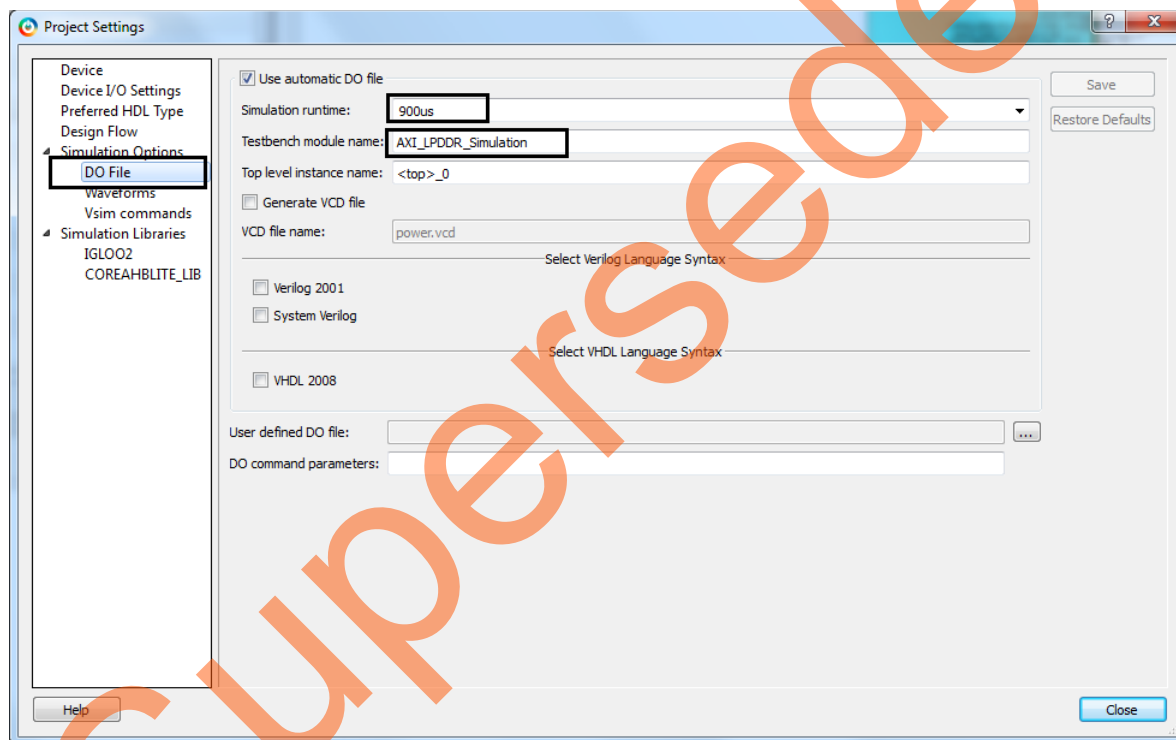

Figure 7 • DO File Settings
4. Ensure that the **DO File** tab has the configuration as shown in Figure 7
3. Simulation run time is 900us, as shown in Figure 7 on page 12.